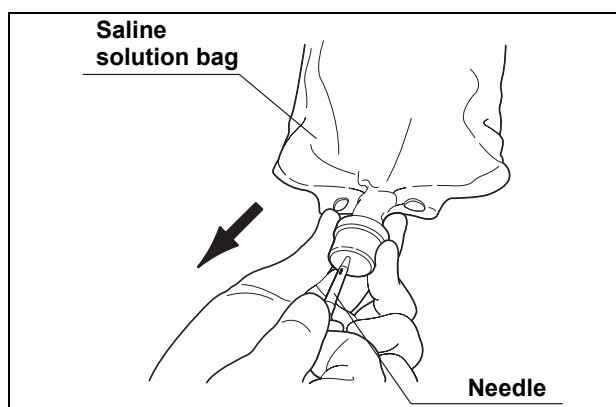

Figure 7.8
7. Remove the needle of the irrigation/suction tube from the saline solution bag (see Figure 7.8).